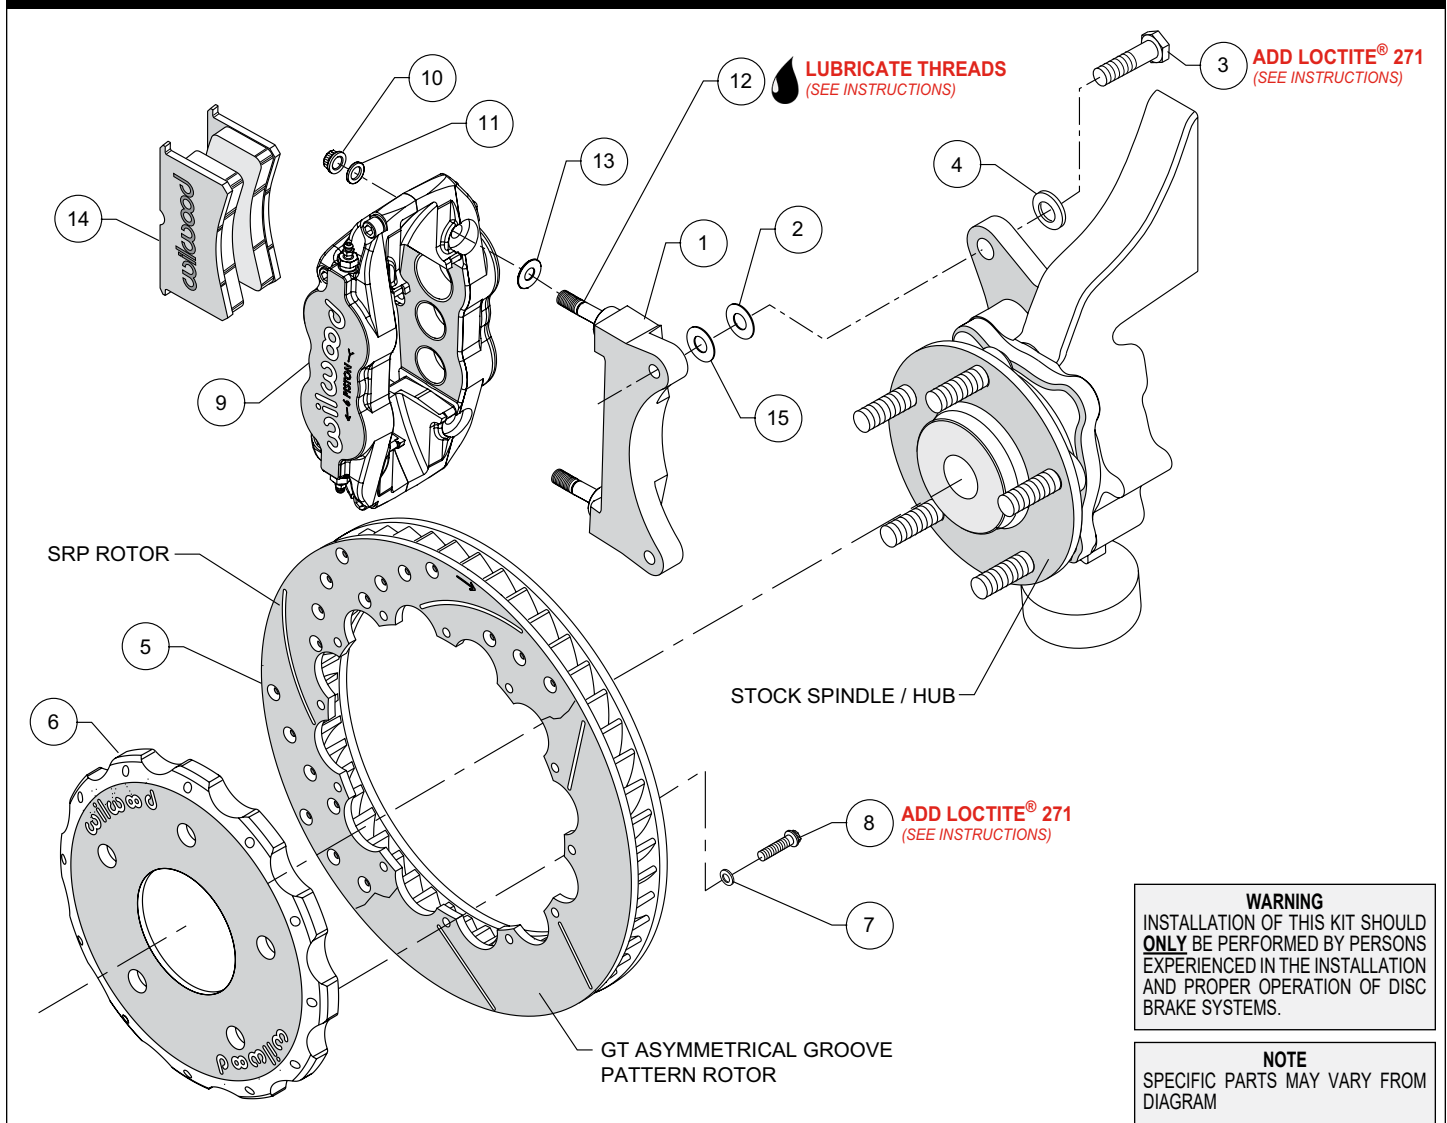

Figure 1. Typical Installation Configuration
NOTE: Numbers in parenthesis refer to the parts list and Figure 1 on the preceding pages.
- The caliper mounting bracket assembly (1) should be installed first with clean, dry threads on the mounting bolts. Install the bracket from the front side of the spindle by sliding bolt (3) through washer (4), and spindle ear. Place shim washer (2) between the bracket (1) and the spindle (see Figure 1). The bracket must tighten squarely against the side of the spindle body. Inspect for interference from casting irregularities, machining ridges, burrs, etc. Use one thin shim (2) between the bracket (1) and spindle during initial trial fitting.
- NOTE:** This kit contains distinct right and left hand calipers that must be mounted in a specific direction, as described below. Lubricate the caliper mounting studs (12) with lightweight oil. Initially place one .035" thick shim (13) on each stud as shown in Figure 1. Mount the caliper (9) onto the bracket (1) using lock nuts (10) and washers (11), Figure 1. Ensure that the caliper is mounted so that the largest pistons are at the rotor exit end of the caliper, in relation to the direction of rotor rotation. Temporarily tighten the lock nuts and view the rotor through the top opening of the caliper. The rotor should be centered in the caliper. If not, adjust by adding or subtracting shims (2 and/or 15)) between the bracket and the upright. Always use the same amount of shims on each of the two mounting bolts. Once the caliper alignment is correct, remove the bracket mounting bolts one at a time, apply red *Loctite*® 271 to the threads, and torque to 60 ft-lb.
- Remove the caliper center bridge pad retainer bolt, nut, and tube from the caliper. Slide the brake pads (14) into place. They should install easily without interference. Check that the outside radius of the brake pad is aligned with the outside diameter radius of the rotor face. Add or subtract shims (13) between the caliper and mount bracket to gain the proper alignment. Reinstall the center bridge pad retainer tube, bolt, and locknut. The locknut should be snug without play in the bolt or tube. Be cautious not to over tighten.